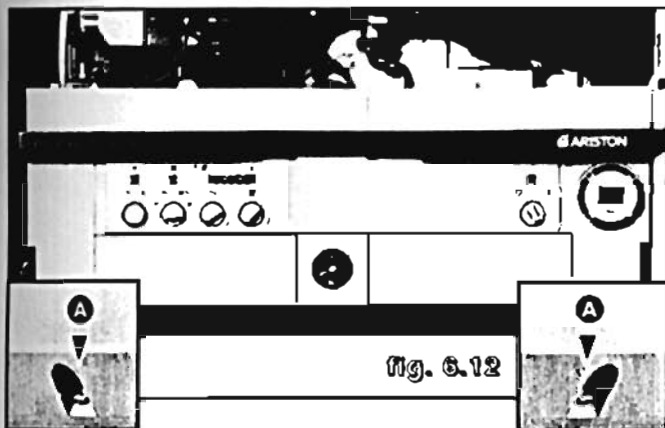

fig. 6.12
- 3 Remove inspection covers by loosening screws A and rotating, as showed on fig. 6.12;